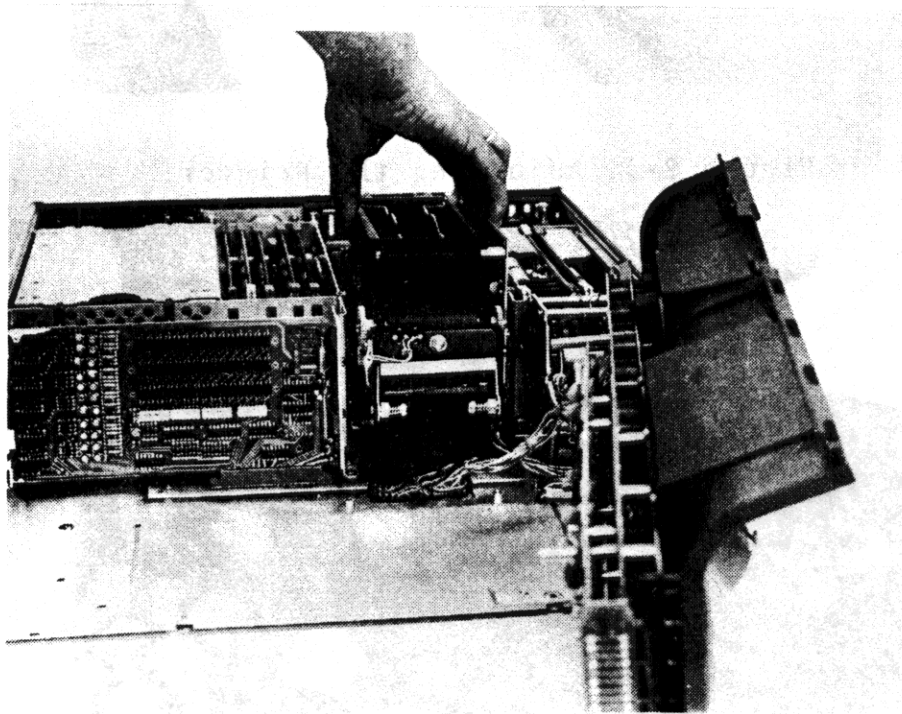

Figure 2-3.
3. Lower calculator and lift keyboard up and forward, away from the mainframe. Then, position keyboard as shown in Figure 2-3.
6. Install the printer mechanism by carefully lowering it straight down into place (see Figure 2-3). Be sure the P.C. board is properly seated in its connector on the mainframe mother board.